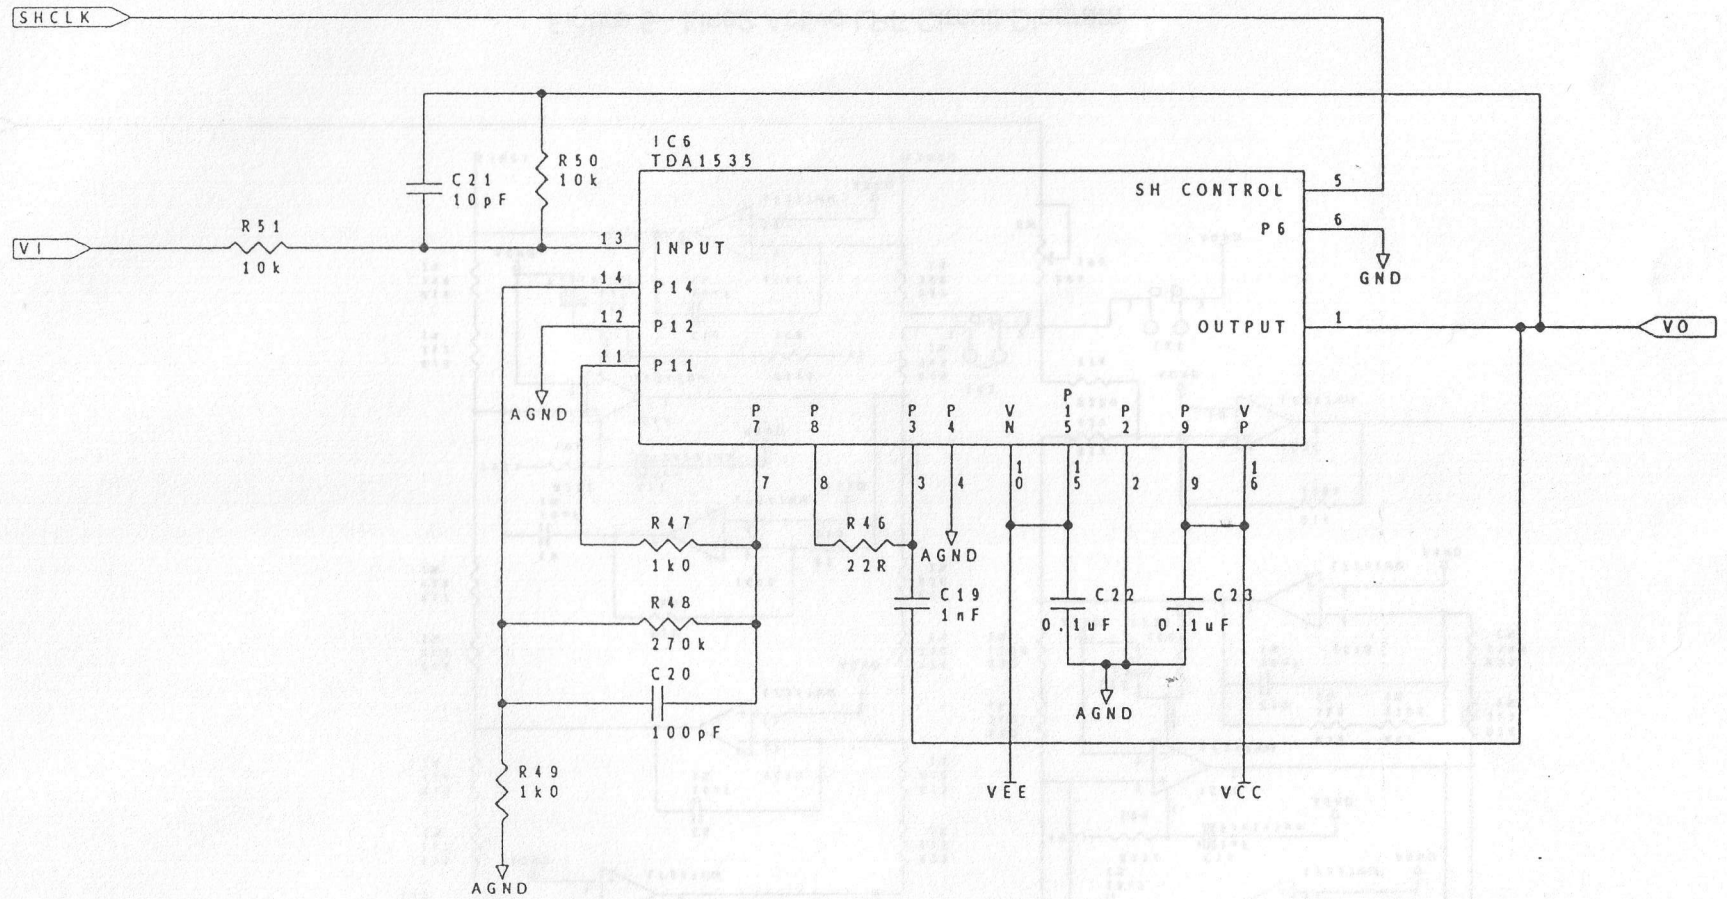

Figure 6 - Sample and Hold Amplifier Circuit Diagram
- Figure 6 Keyboard Assembly Component Layout Diagram